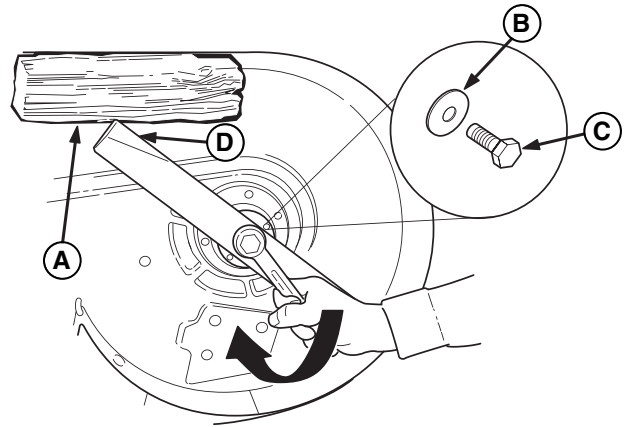
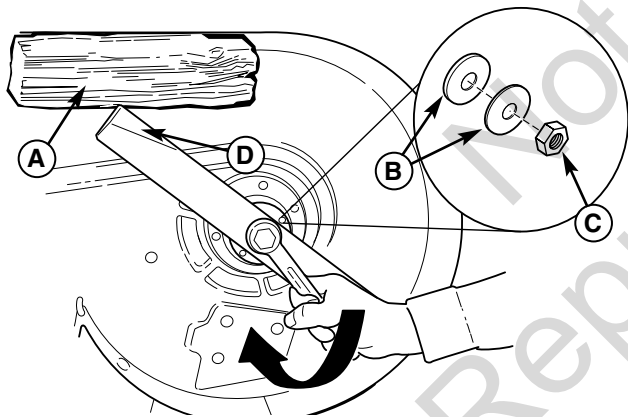

Figure 31. Blade Installation - 52" Deck
Figure 30. Blade Installation - 42" Deck
7. Reinstall the blade with the lift wings (D, Figure 30; E, Figure 31) pointing up toward the mower deck as shown.